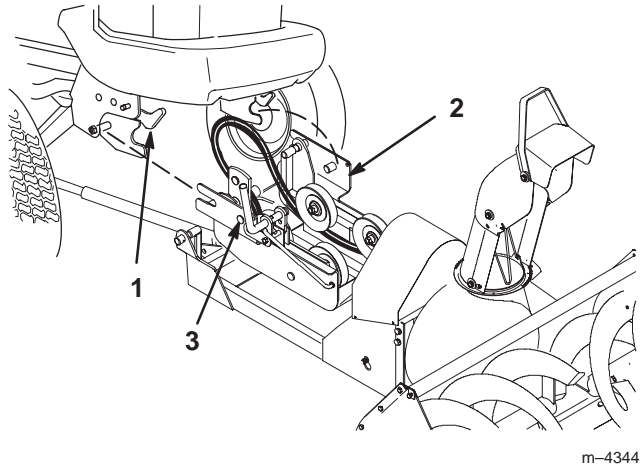

Figure 32
2. Put the high-low range lever in neutral (N) and release the parking brake.
4. Remove the C-pins from the pulley box locking holes (Fig. 32).